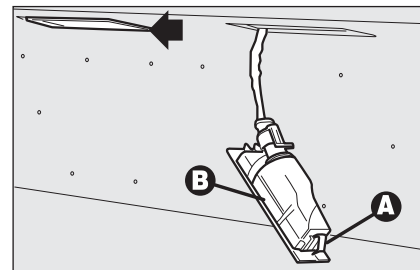

fig. 40
- operate with a flat blade screwdriver protected by a soft cloth on device **A-fig. 40** to remove the light unit **B**;